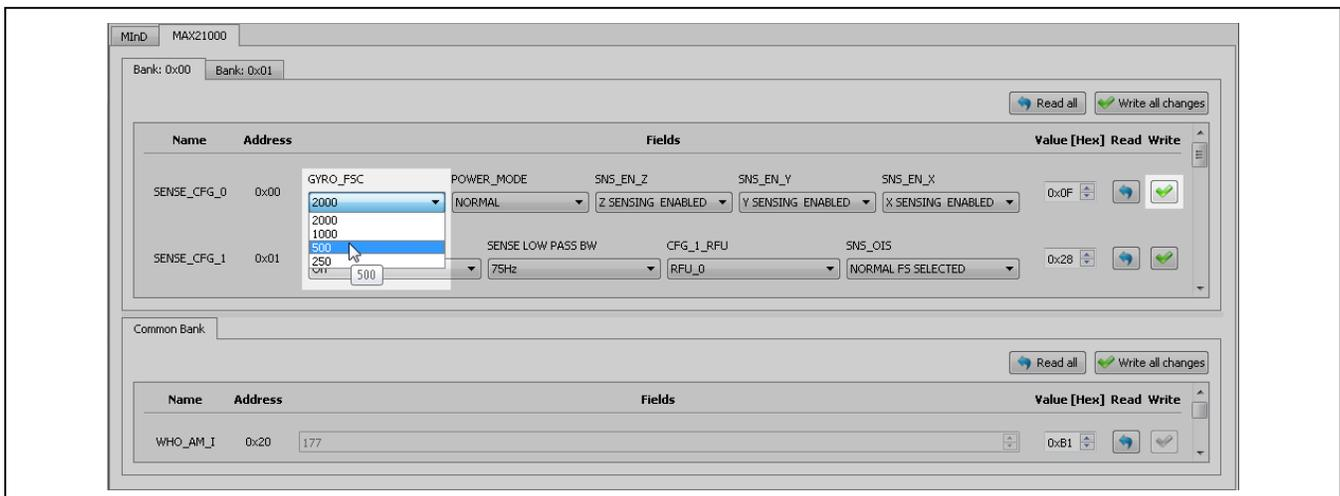

Figure 17. Sets the Gyroscope to Full Scale on the MAX21000
- 4) Finally, click on the green checkmark on the right of the field to confirm the change (Figure 17).